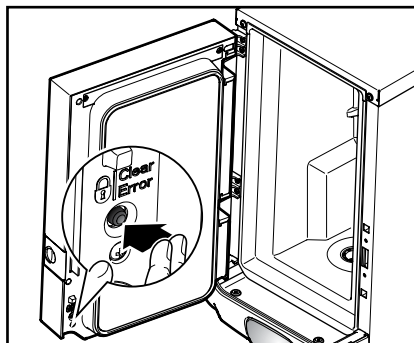

Fig. 22
2. Press the LOCK/Clear Error switch to block the drink delivery (fig. 22).
3. To unlock the dispenser, press the LOCK/Clear Error switch again to enable drink delivery (fig. 22).